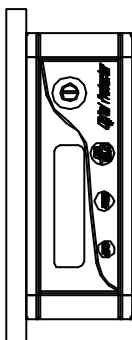

Figure 14
(1) Turn on the instrument and put it on a smooth and vertical plane, see figure 14, notice the LCD display, wait 10 seconds till the data reading is stable then record the angle degree.